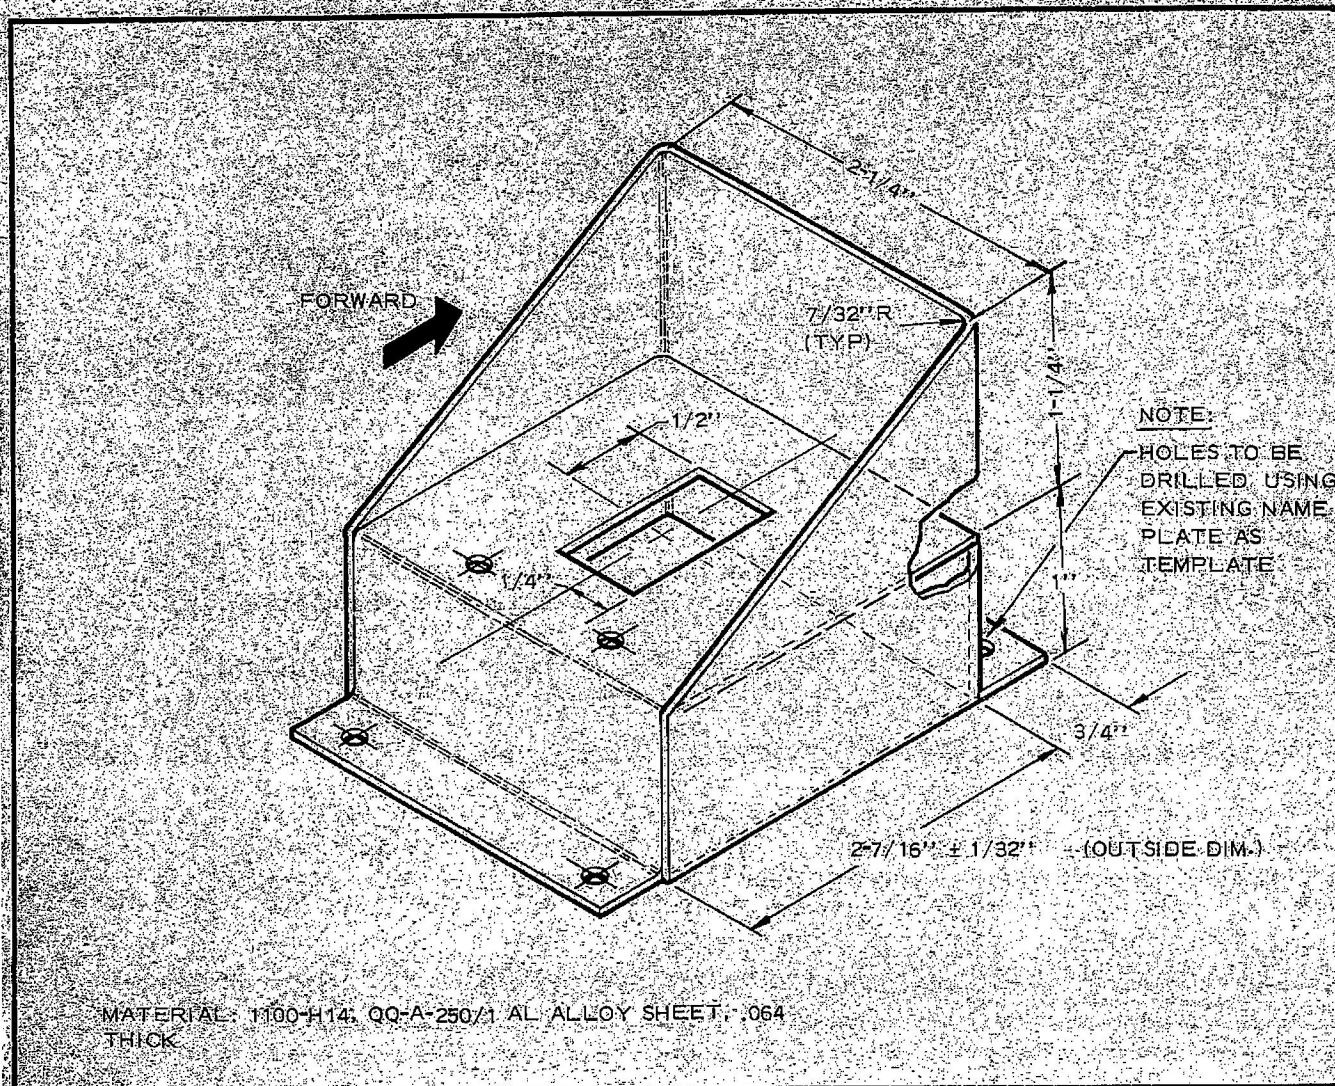

Figure 1 (Issue 2)
- (f) Locally manufacture each two brackets as per Figure 1 using sheet aluminum 2S 1/2 H thickness .064 Ref. 9535-21-813-8542.